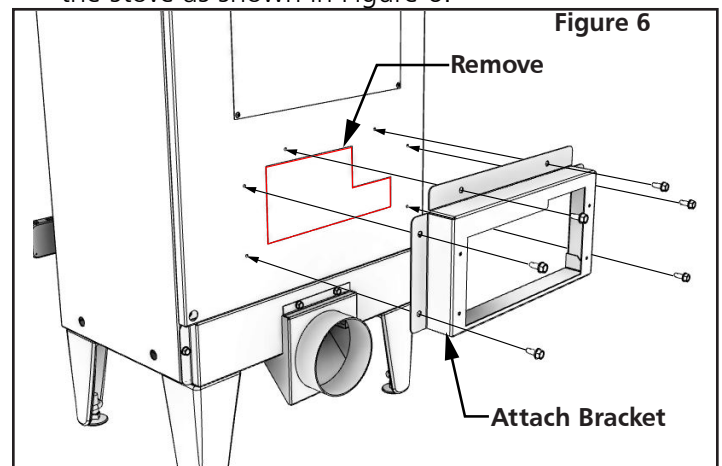

Figure 6
2. Use the provided six (6) sheet metal screws to attach the blower mounting bracket to the rear of the stove as shown in Figure 6.